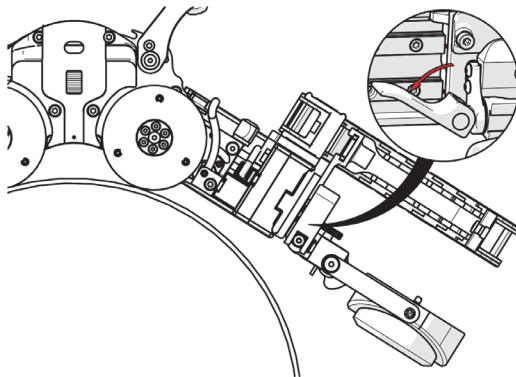

Figure 2-42 Pivot raster arm
1. Release the pivot nose latch and angle the probe holder towards the inspection surface (see Figure 2-42 on page 76).